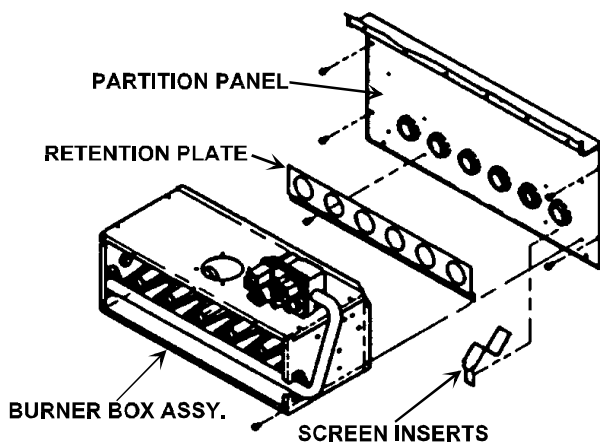

Figure 4
4. If converting to propane gas, remove metal screen inserts, where present, from the entrance of the heat exchanger tubes. See Figure 4 and follow the a,b,c directions.
1. **IMPORTANT:** Remove the metal inserts from the entrance of all heat exchanger tubes, as shown in Fig. 4. This should be done as part of the "ORIFICE INSTALLATION" procedure.